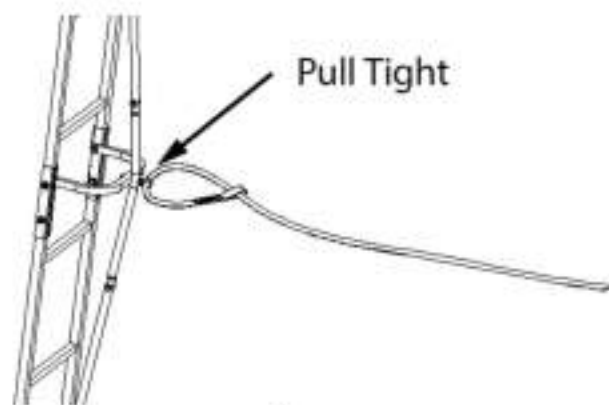

Figure 40.
STEP 8: Install the stabilizing strap to the eye bolt on the ladder bridge support by looping it back thru itself and pull tight as shown in Figure 40.